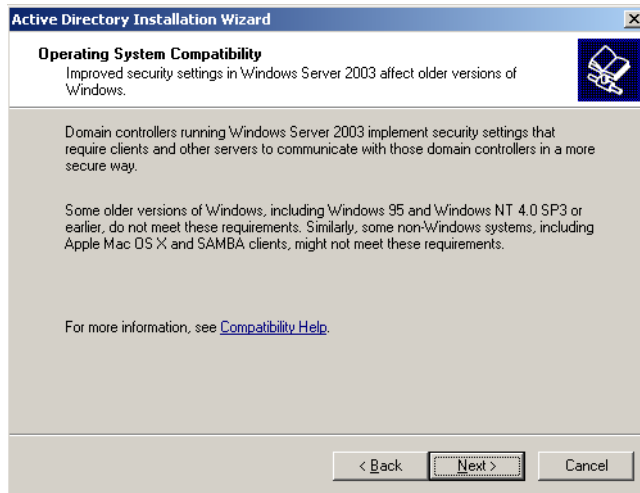

Figure D-28 Active directory installation wizard
9. After reviewing the **Operating System Compatibility** information, shown in figure D-28, click the **Next** button.